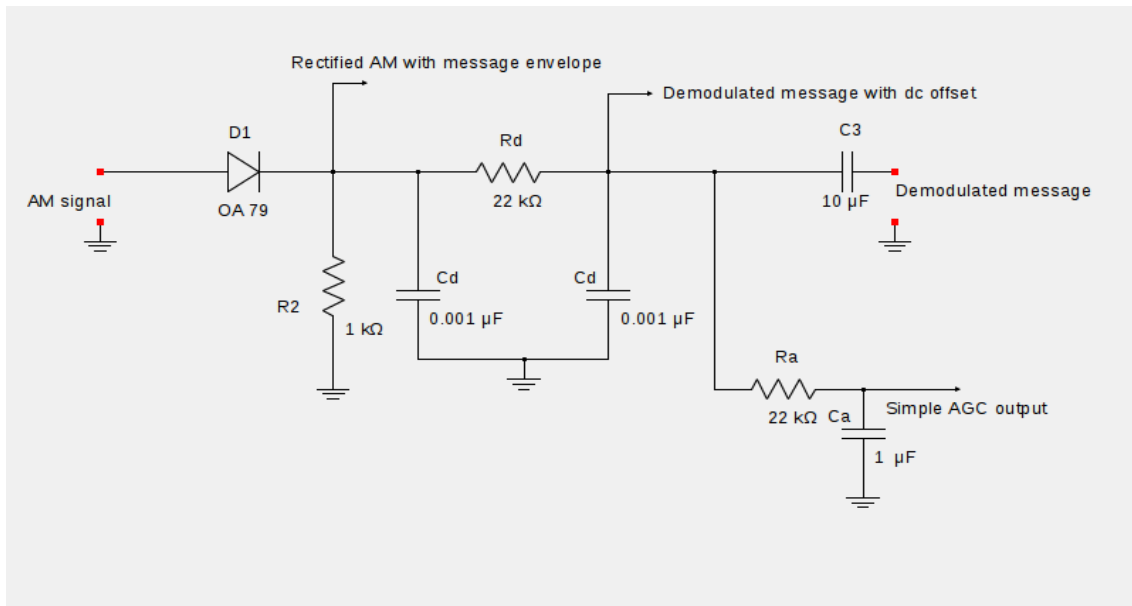
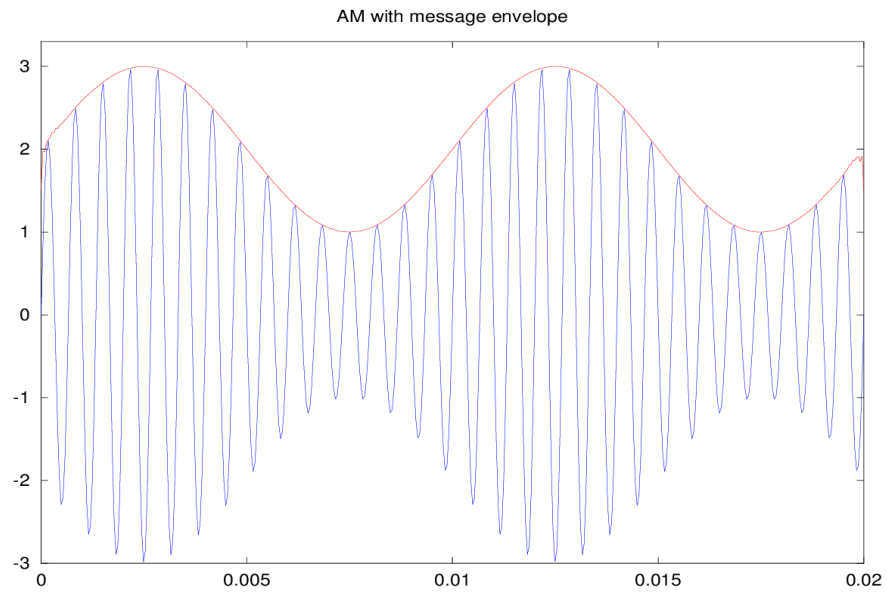

Figure 4.1: Detector circuit with Simple AGC
Figure 4.2: AM with message envelope
The detector circuit with simple AGC is shown in Figure. 4.1.
1. Connect the diode to the output of AM signal(See Figure. 4.2) as in the circuit diagram Fig. 4.1.